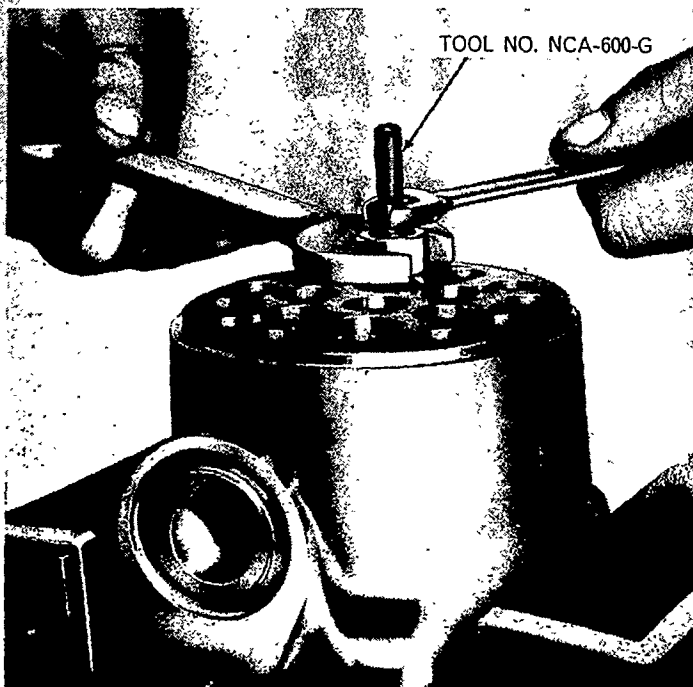

Figure 83
10. Remove the inlet valve seats from the pump body using Tool No. NCA 600 G, Figure 83.